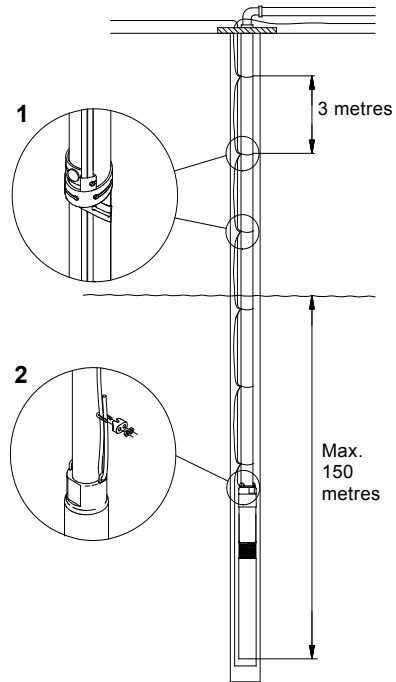

Fig. 11
Figure 11 shows a pump installation with indication of:
Cable clips must be fitted every 3 metres. See fig. 11.
**Maximum** installation depth below the static water level: 150 metres. See fig. 11.
It is recommended to secure the pump by an unloaded straining wire. See fig. 11, pos. 2.